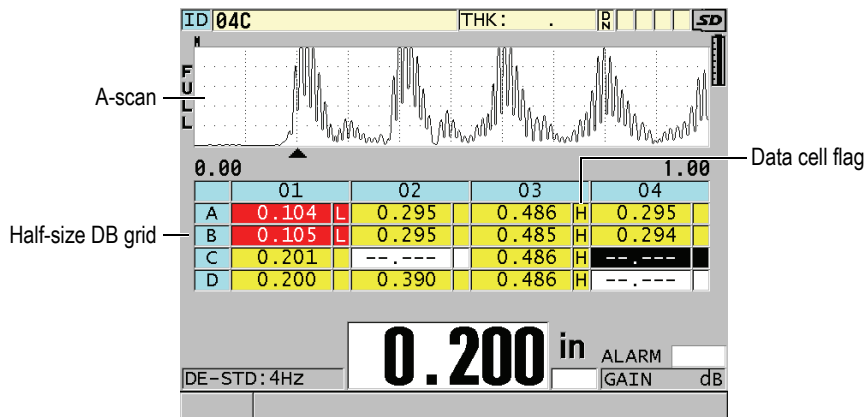

Figure 10-8 Example of the half-size DB grid
The database grid (DB grid) is a table representation of 2-D data. This representation gives you the ability to move freely in any direction on a grid rather than follow a preset list of IDs. Instead of automatically incrementing to the next ID location, you can use the arrow keys to move to a location that is more convenient. You can simultaneously display the A-scan, the DB grid, and the thickness reading (see Figure 10-8 on page 139). You can configure the grid cells to show a data cell flag and a background color corresponding to the range in which their thickness reading falls.
8. Set **DATA CELL FLAG** to one of the available options to display a single data flag with each data cell in the DB grid. The data cell flag is a letter that appears in a small box to the right of the thickness value in the data cell (see Figure 10-8 on page 139). The available options are: